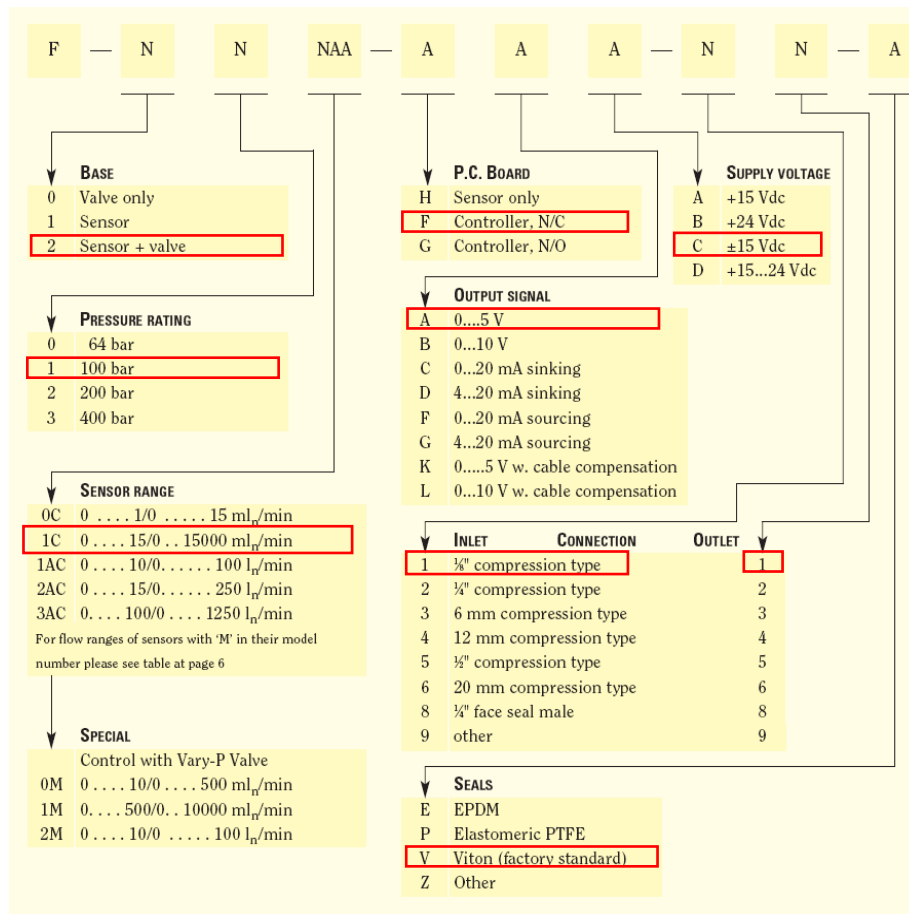

Figure 7-4
- IDENTIFICATION No.: **F_211C_FAC_11V** (Figure 7-4):